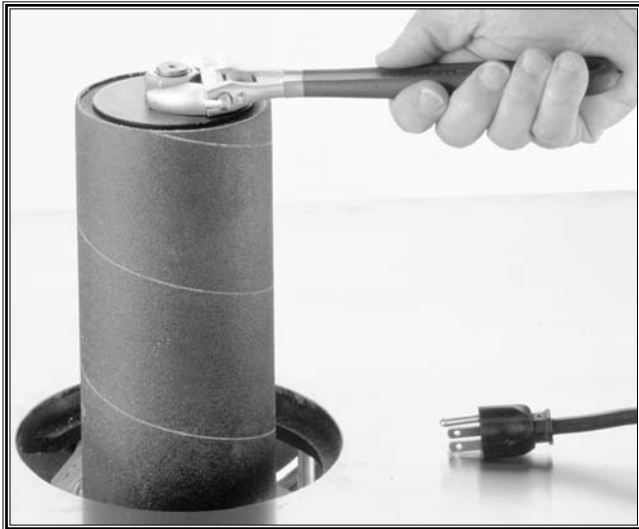

Figure 11. To remove the sanding sleeve from the spindle, loosen the hex nut on the top of the spindle.
1. Loosen the hex nut located on the top of the spindle as shown in **Figure 11**. The hex nut and flange disk **DO NOT** need to be removed.